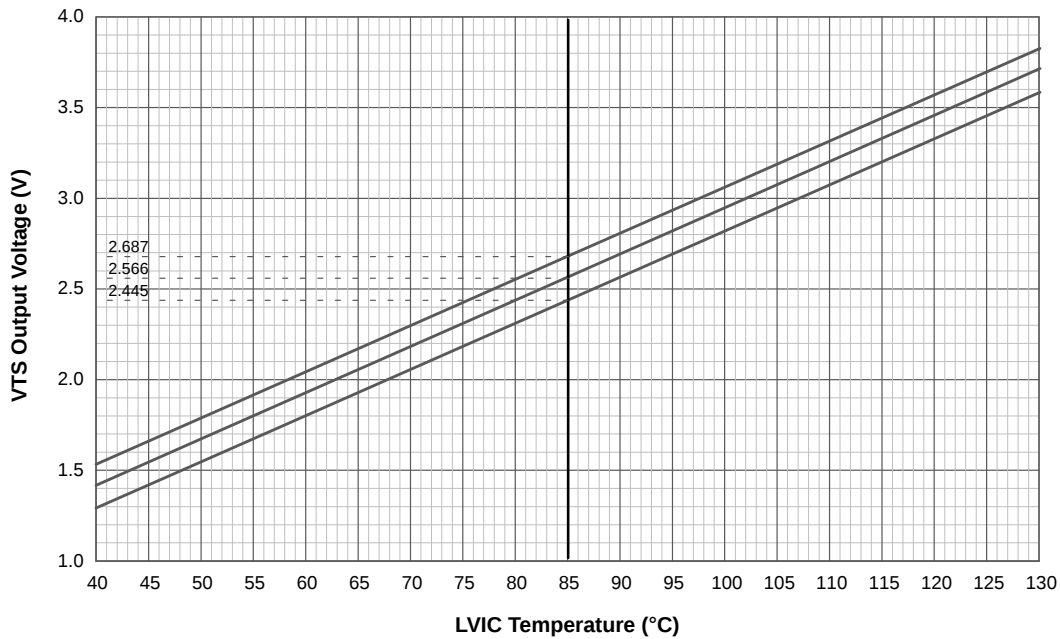
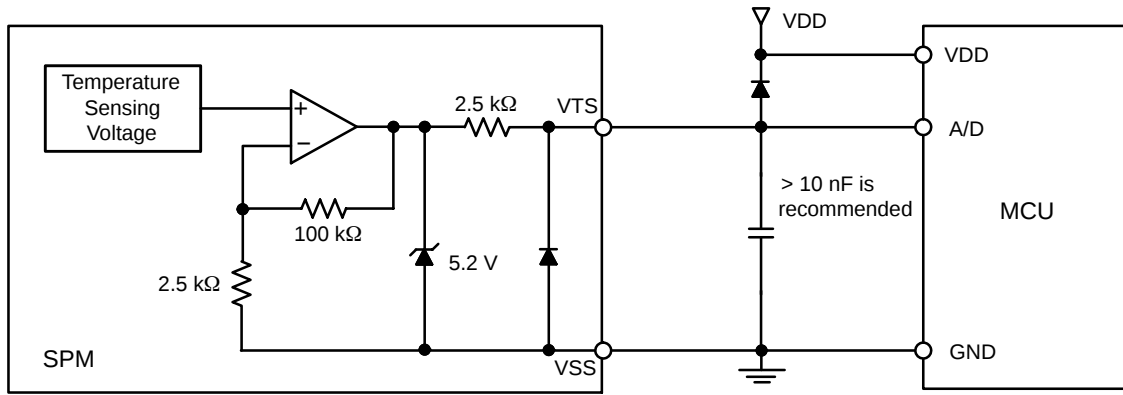

Figure 6. Temperature Profile of VTS
Figure 7. Internal Block Diagram and Interface Circuit of VTS
| VTS      | Voltage Output for LVIC Temperature Sensing Unit | VDD(L) = 15 V, TLVIC = 25°CSee Figure 6 and 7 (Note 8) | 0.909 | 1.030 | 1.151 | V  |
8. TLVIC is the temperature of LVIC itself. VTS is only for sensing temperature of LVIC and cannot shutdown IGBTs automatically. The relationship between VTS voltage output and LVIC temperature is described in Figure 6. It is recommended to add a ceramic capacitor of 10 nF or more between VTS and VSS (Signal Ground) to make the VTS more stable as described in Figure 7. Refer to the application note for this products about usage of VTS.